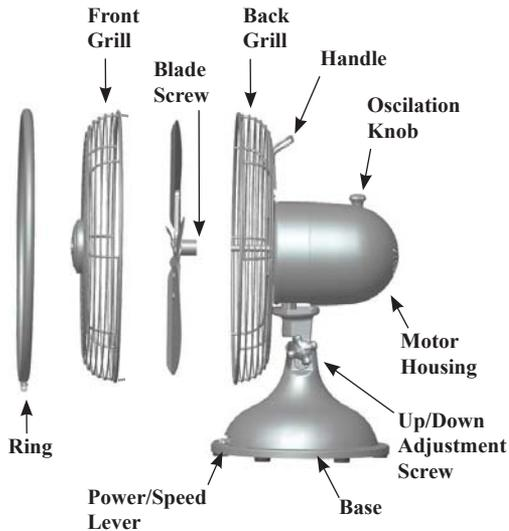

Figure 15
2. Disassemble grills by carefully removing the screw on the bottom of the ring. See Figure 15.